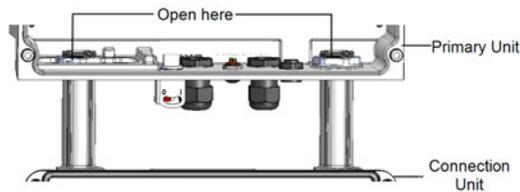

Figure 50: Conduit nuts
6. Unscrew the two conduit nuts in the Primary Unit securing the Connection Unit to it, see *Figure 50*.